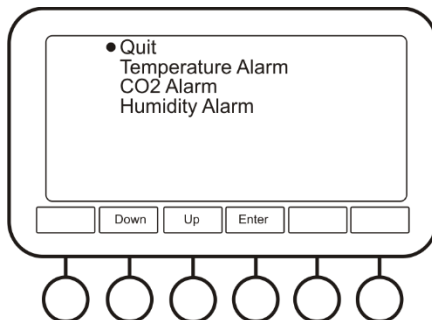

Fig. 8. Alarm Settings menu
4.9.3.2.1 **Alarm Settings** (fig. 8). User can set the alarm settings based on values of temperature, CO₂ level, and relative humidity. All alarms are working on the following principle, temperature taken as an example:
4.9.3.2.2 **Auto Lock Delay** (fig. 8). After being idle for several minutes, the incubator locks the buttons (except the **Lock** button). This timer allows to change the idle time.